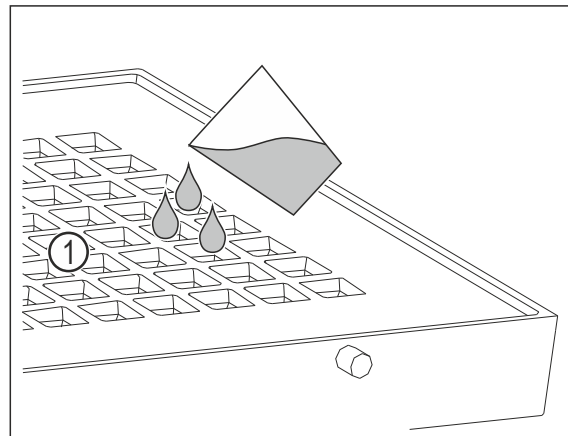

Fig. 97
- ▶ Fill with a maximum of 400 ml of water through the holes Fig. 97 (1) in the cover.